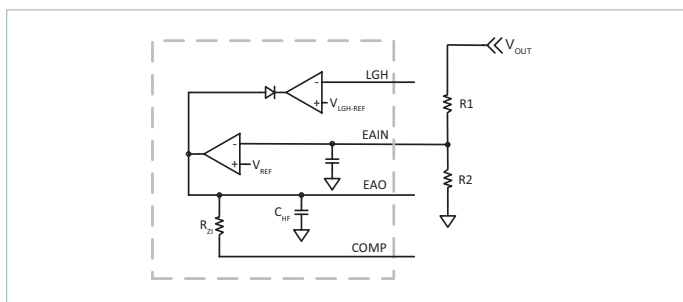

Figure 51 — External resistor divider network
The PI354x-00 family of Buck Regulators utilizes an internal reference ( $V_{REF}$ ). The output voltage setting is accomplished using external resistors as shown in Figure 51. Select R2 to be at or around  $1k\Omega$  for best noise immunity. Use Equations (1) and (2) to determine the proper value based on the desired output voltage.